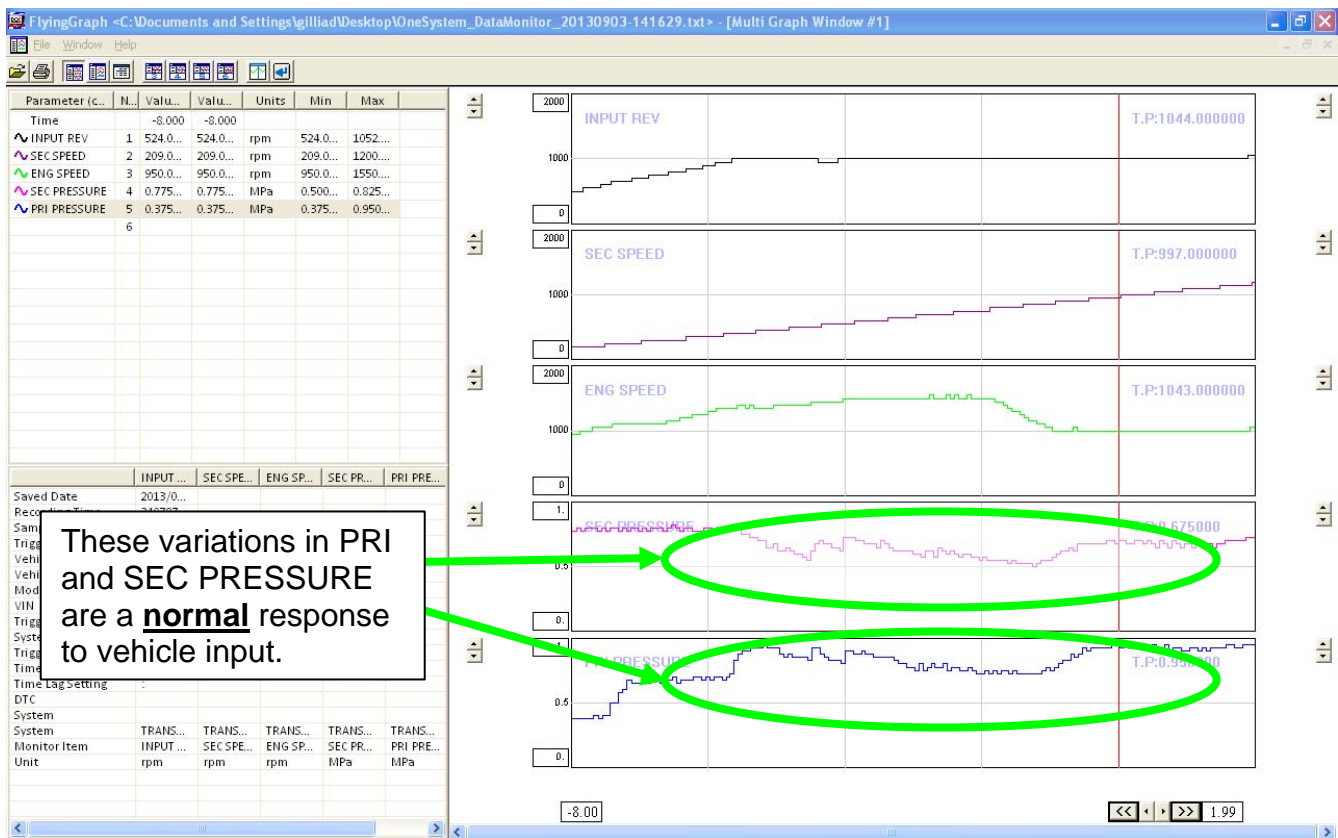

Figure 14
NOTE: Figure 14 shows **INPUT REV**, **SEC SPEED**, **ENG SPEED**, **PRI PRESSURE** and **SEC PRESSURE** from a vehicle that does not have a judder present.
- If a judder is present and the recorded data review shows that the data lines are smooth with no oscillations as shown in Figure 14 above refer to Torque Converter Replacement on page 17.